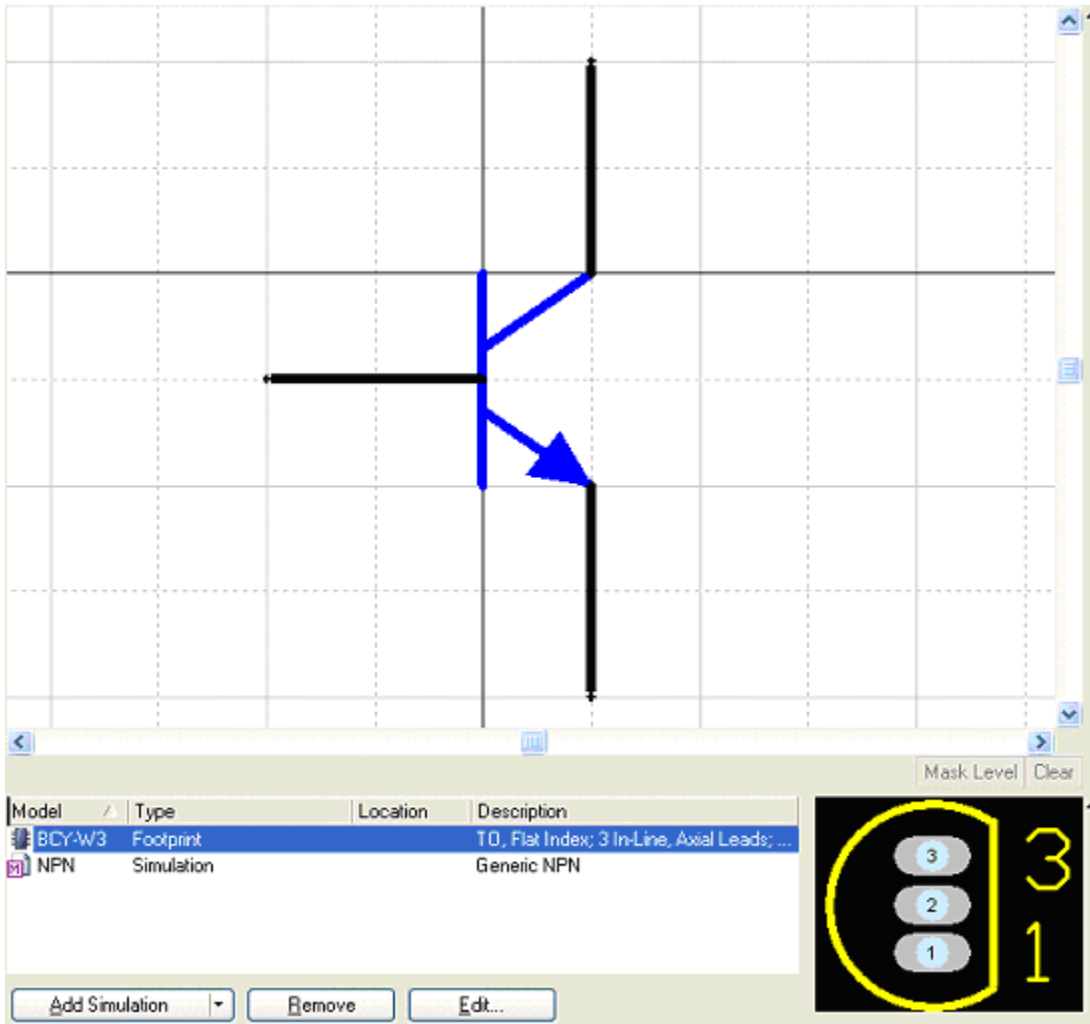

Figure 21. NPN with\ \ the footprint and simulation models listed in the Models view.
10. Click **OK** to return to the *Library Component Properties* dialog where the model NPN has been added to the Models list, as shown in Figure 21.